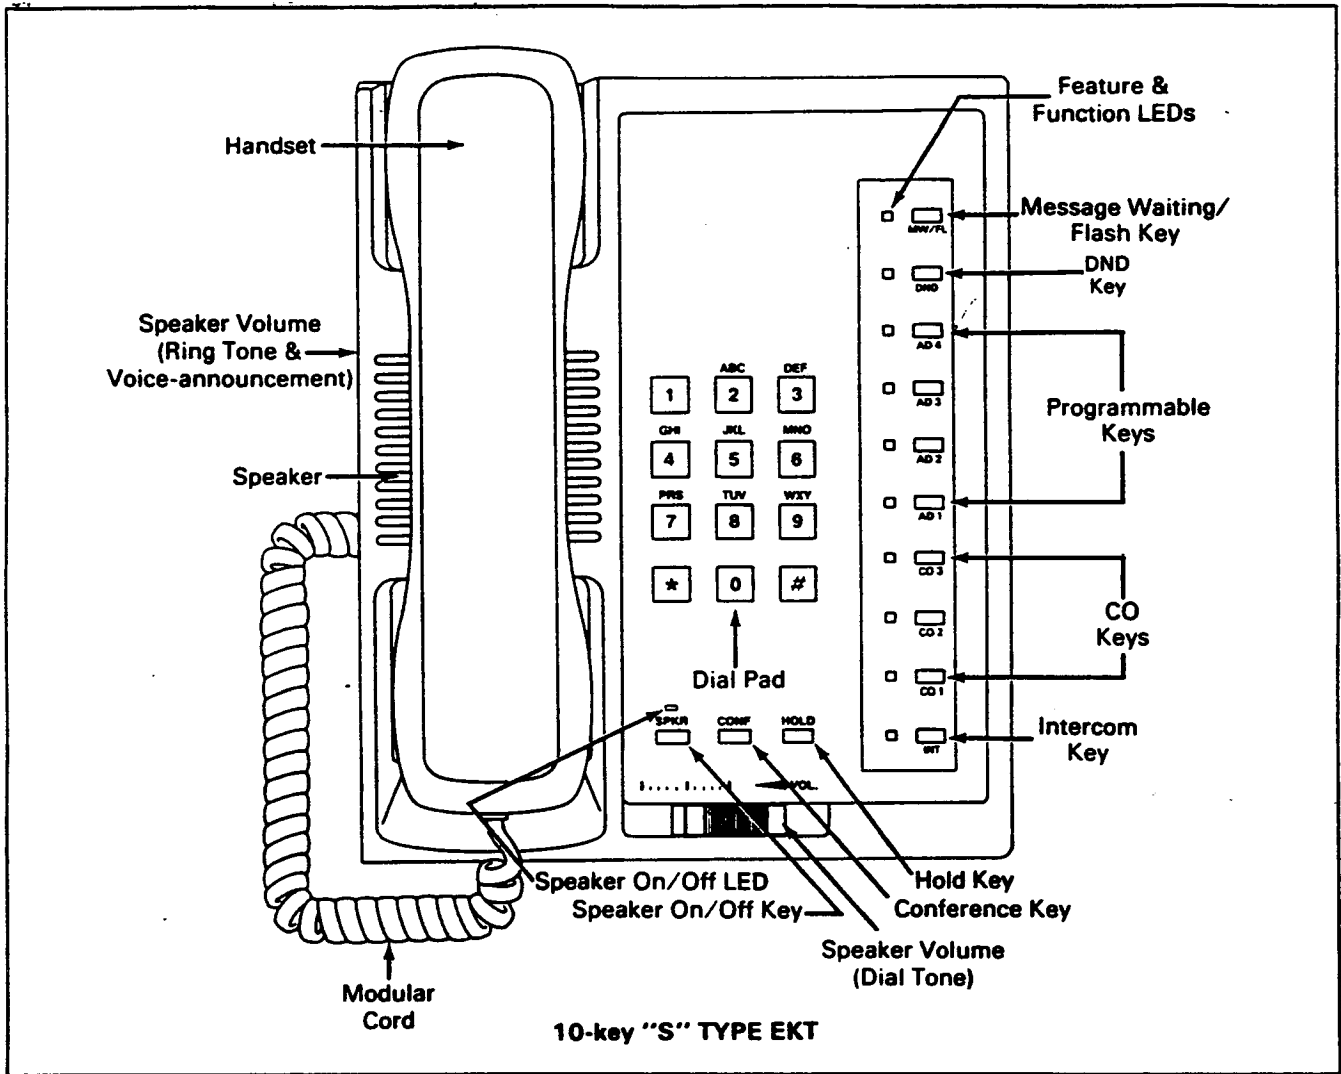

FIGURE 4—10-key "S" EKT
02.11 Four different Electronic Key Telephones (EKTs) may be used in the *Strata* system. The standard EKT (Figure 4), known as a 10-key "S" EKT, is equipped with three permanently dedicated keys and ten line/feature keys. All three optional EKTs are full speakerphones and are